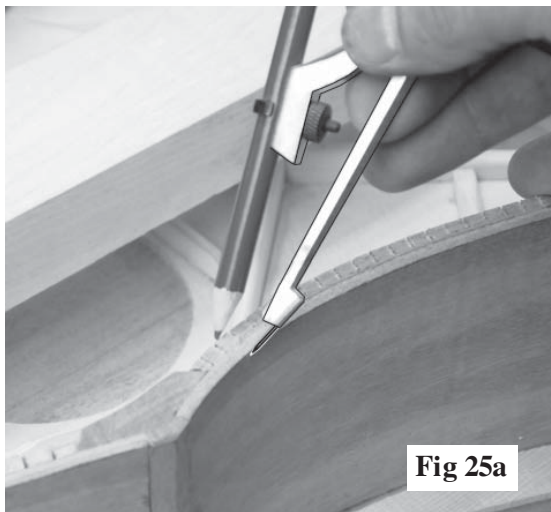

Fig 25a
25. Set a compass to match thickness of the back edge with kerfing, as shown in fig 25a.